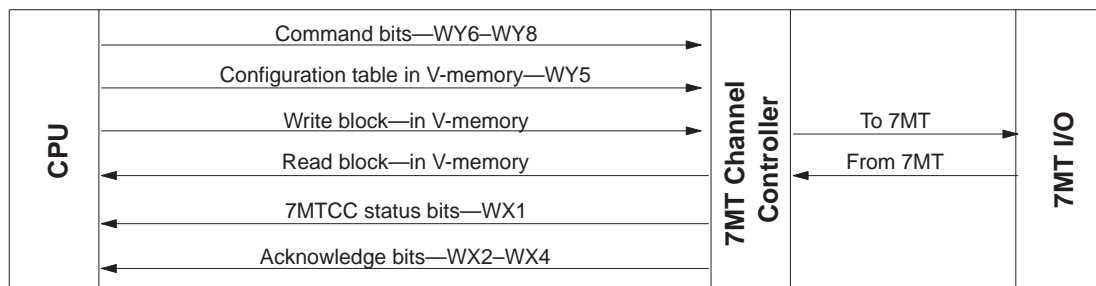

Figure 1-3 7MTCC Operation
The 7MTCC uses controller V-memory to transfer information between the CPU and the 7MT I/O system. Figure 1-3 gives an overview of the 7MTCC operation.
- Words WX2–WX4 contain acknowledge bits from the 7MT tasks as shown in Figure 1-3. A value of 1 means the programmed task has been performed; a value of 0 means the programmed task has not been performed.